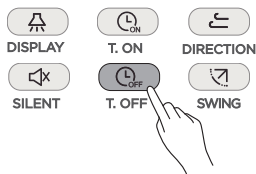

Figure 3.15
- Press  (see Figure 3.15), and the remote controller will display "Timer Off", and "0.0h Later Off" will appear in timer area. Adjust the Timer Off settings now;